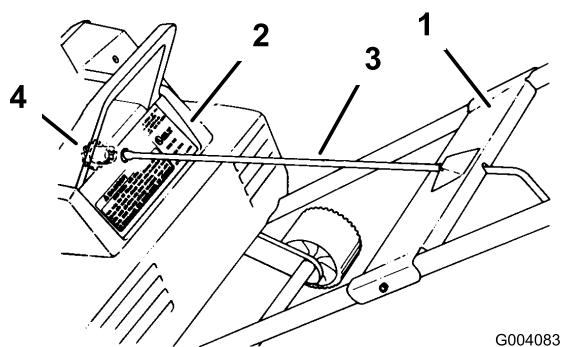
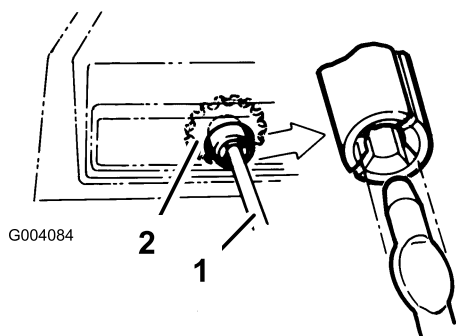

Figure 4
Figure 5
- Place the mounting plate over the tubes (Figure 4).
9. Turn the chute crank rod slowly until the flattened end drops into the slot in the gear, then firmly push the chute crank into the gear until it snaps into place (Figure 4 and Figure 5).